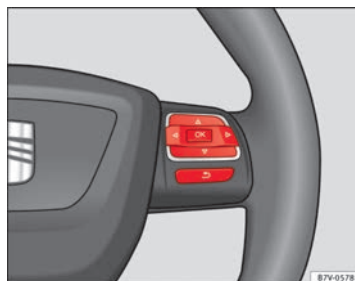

Fig. 38 Right side of multifunction steering wheel: Buttons to access the instrument panel menus
- If a message or vehicle symbol is displayed, press **OK** (⇒ Fig. 37 (A) or ⇒ Fig. 38).